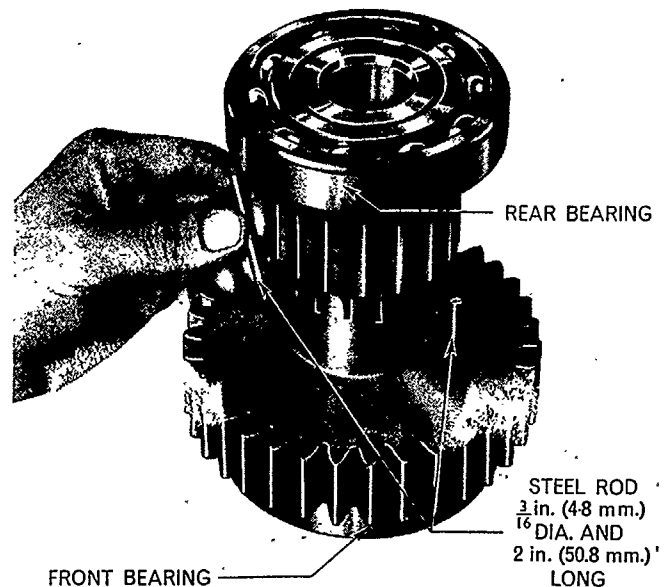
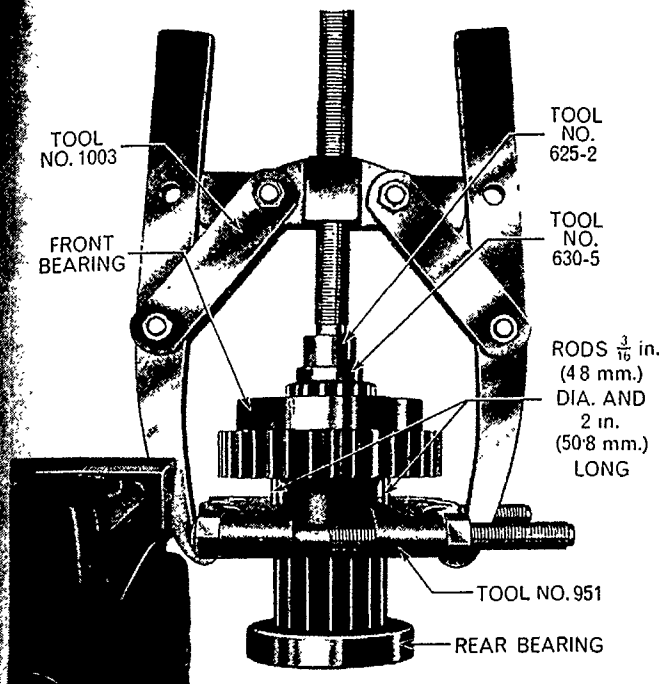

Figure 72
Figure 73
2. The front bearing is removed using Tools Nos. 1003, 951, 630-5, 625-2, also two pieces of steel rod $\frac{3}{16}$ in. (4.8 mm) diameter and 2 in. (50.8 mm) long. Two pieces of steel rod are inserted through the driving holes in the gear, Figure 72, to contact the bearing. The assembly is then placed in the Tools indicated above, so that the rods push the bearing off, Figure 73.